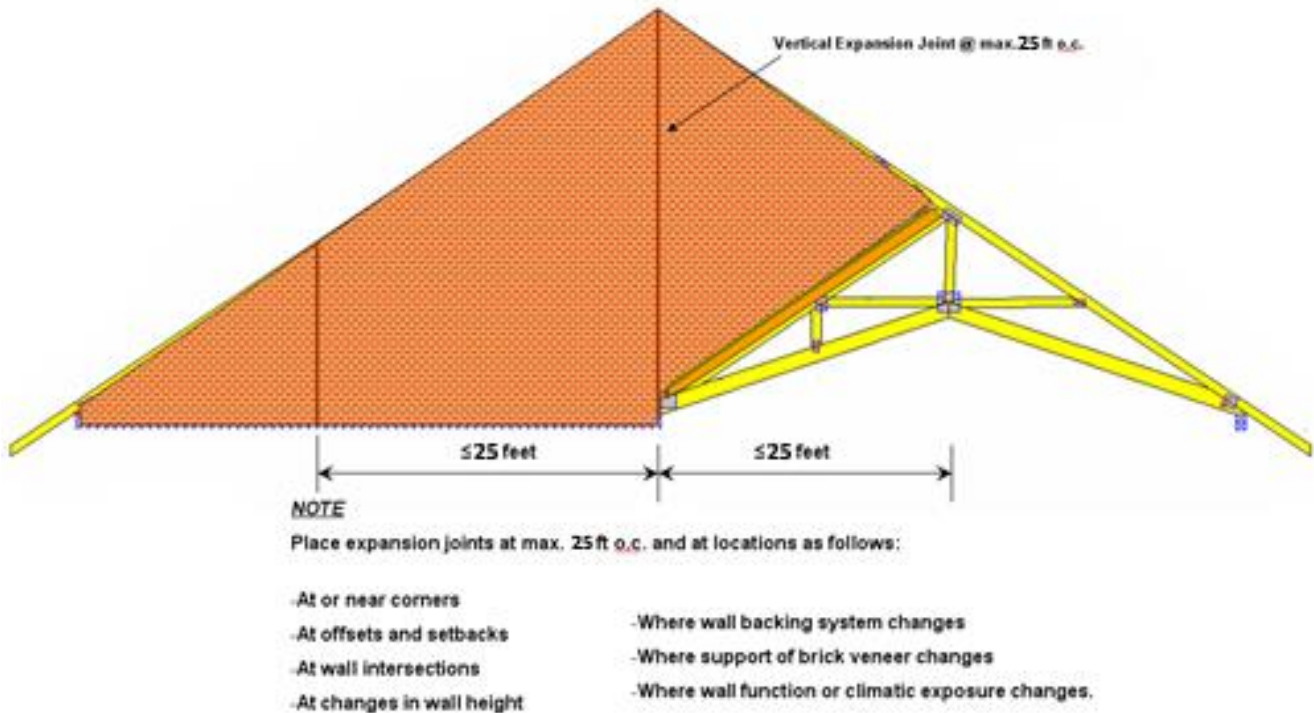

Figure 3. Recommended expansion joint location for brick veneer cladding supported with MPCWT through steel lintel
- 2.8.1.** The actual location of vertical expansion joints in a structure depends on the structural configuration as well as the expected amount of horizontal movement. In addition, vertical expansion joints should be considered at or near corners, offsets, and setbacks, wall intersections, changes in the wall height, where wall backing system changes, where support of brick veneer changes and where wall function or climatic exposure changes (Figure 3).